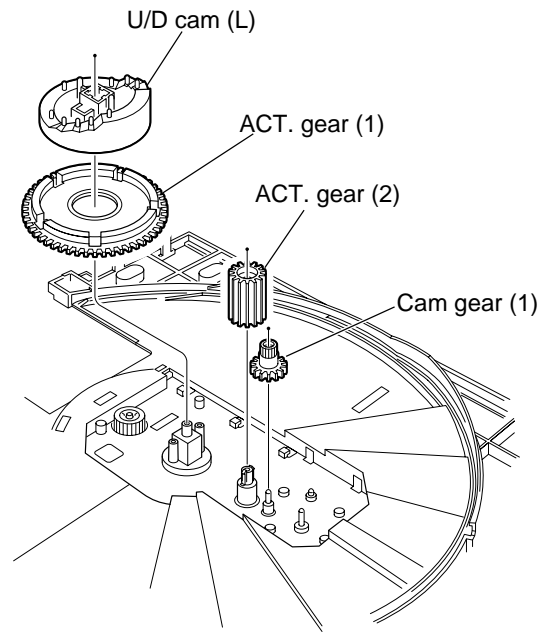

Fig.18
■ **Removing the ACT. gear (1), U/D cam (L), cam gear (1) and ACT.gear (2)**
**(See Fig.18 and 19)**
• Prior to performing the following procedure, remove the main tray cover, the U/D cam (U) and the sub trays.
1. Draw out the U/D cam (L).
2. Draw out the ACT. gear (1).
3. Draw out the cam gear (1).
4. Draw out the ACT. gear (2) while pushing the two